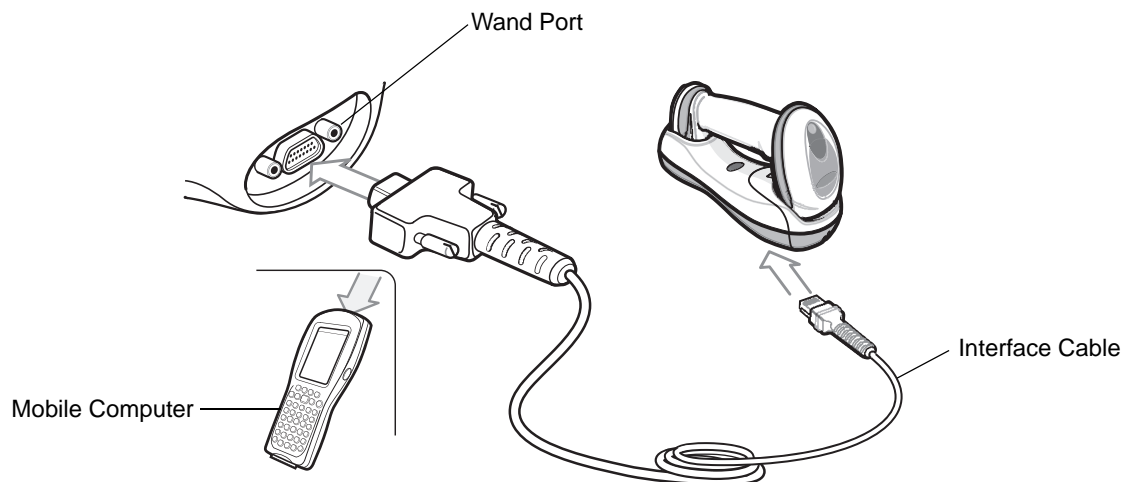

Figure 11-1 Wand Emulation Connection
- ✓ **NOTE** Interface cables vary depending on configuration. The connectors illustrated in Figure 11-1 are examples only. The connectors may be different than those illustrated, but the steps to connect the cradle remain the same.